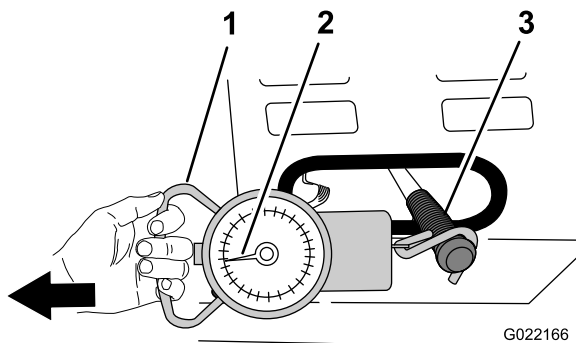

Figure 67
4. Attach a spring scale with a range of 15 to 30 kg (35 to 55 lb) to the grip of the clutch lever (Figure 67).
5. Using the spring scale, pull the clutch handle to the On position as shown in Figure 67.
6. Observe the spring scale while pulling to see what the highest pressure is when moving the clutch handle from the Off position to the On position (Figure 67).